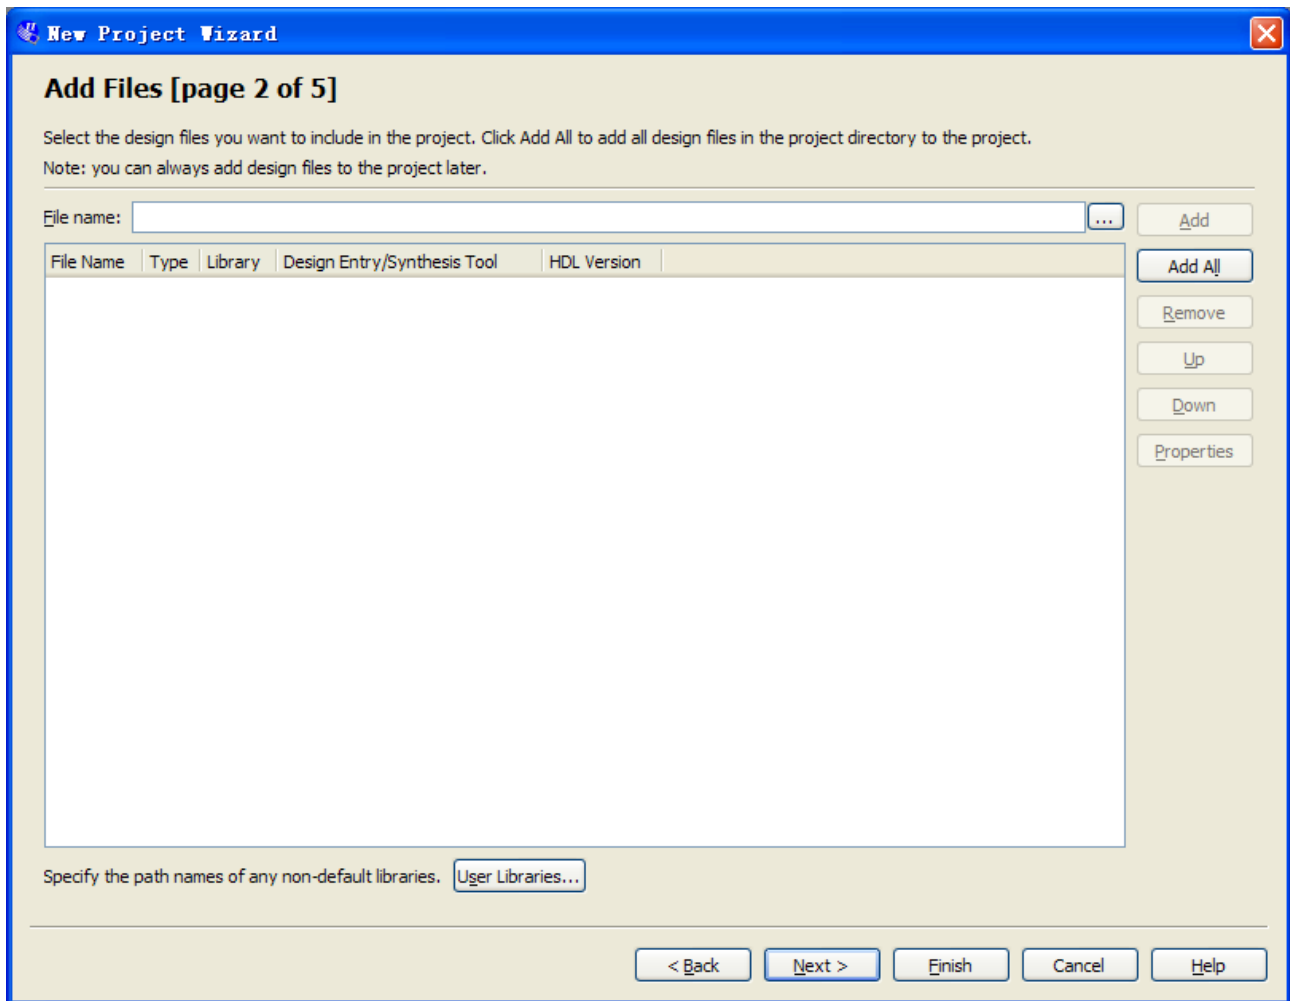

**Figure 1-2 New Project Wizard**
1. Launch Quartus II then select **File->New Project Wizard**, start to create a new project. See Figure 1-1 and Figure 1-2.